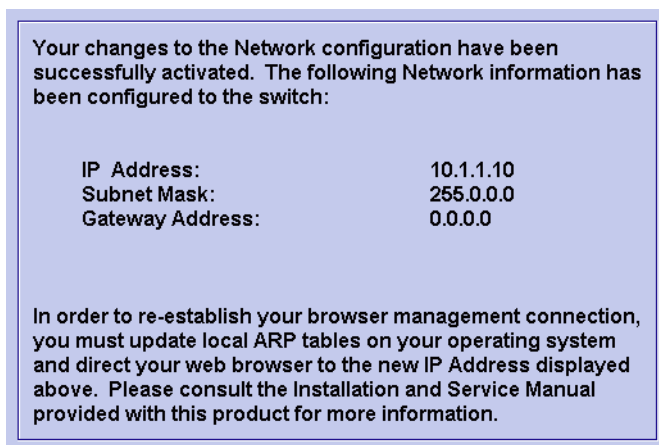

Figure 44: Network configuration changes activated
2. Click **Activate** to save the information. The following message box displays (Figure 44).